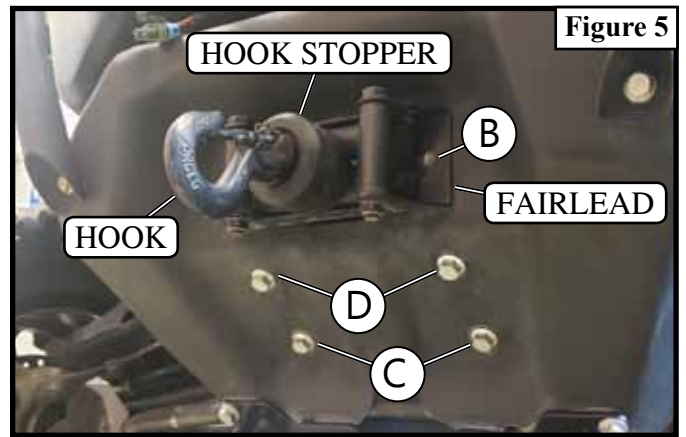

Figure 5
1. If KFI winch mount is already installed, remove the **hook** and **hook stopper** from the winch cable. Remove the **fairlead** by removing bolts and nuts at Location **B**. Depending on the winch installed, it may need to be unbolted from the winch mount to allow for more room to work. Remove bottom winch mount bolts and nuts at location **C**. See **Figure 5**.